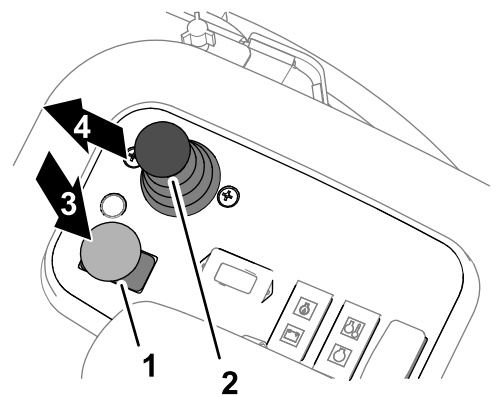

Figure 34
1. Engage the parking brake and the press cutting unit drive switch to the DISENGAGE position (Figure 34).